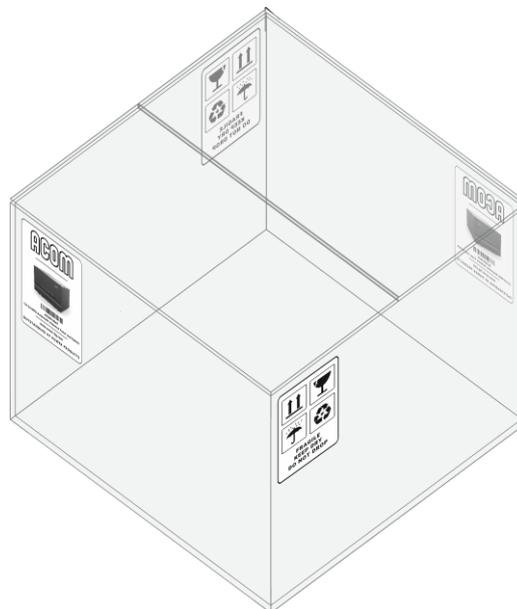
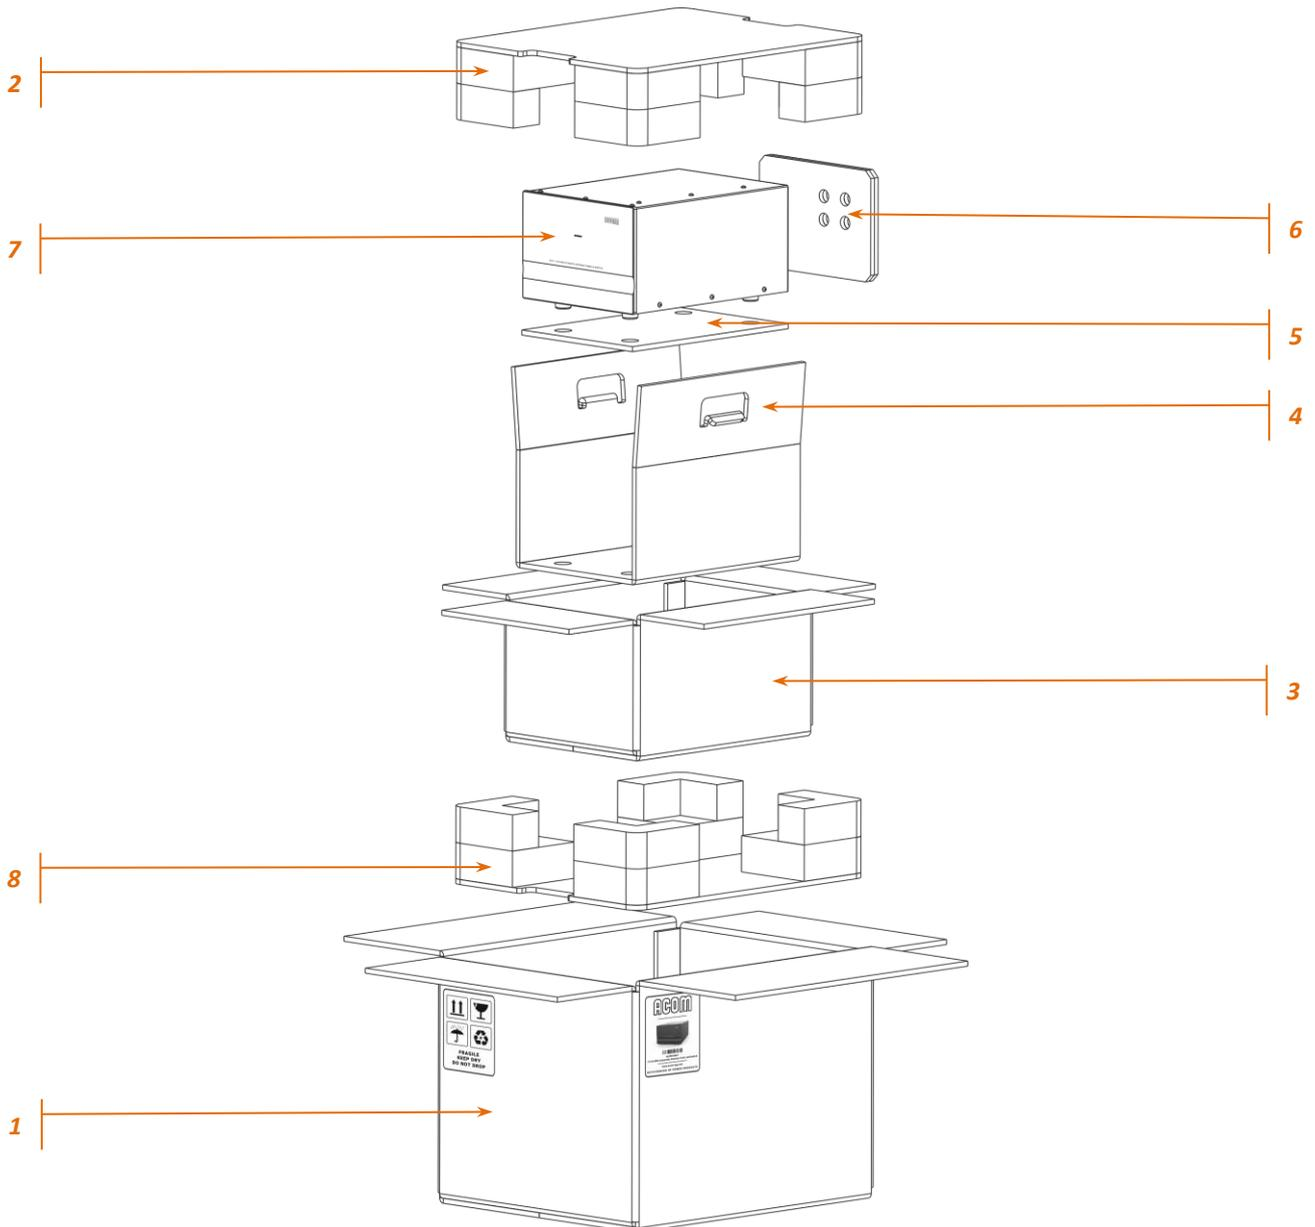

Figure 2-1 | Packaging carton (outside view)
Figure 2-2 | ACOM 06AT packaged in a cardboard box
- Open the cardboard carton (see Figure 2-1 | Packaging carton \(outside view\) and Figure 2-2 | ACOM 06AT packaged in a cardboard box, Pos. 1);
- Take out the top secure element (see Figure 2-2 | ACOM 06AT packaged in a cardboard box, Pos. 2);
- Open the internal cardboard carton (see Figure 2-2 | ACOM 06AT packaged in a cardboard box, Pos. 3);
- Take out the tuner using handles of the middle secure element (see *Figure 2-2 | ACOM 06AT packaged in a cardboard box*, Pos. 4);
- Take out the tuner (Pos. 7) from the middle secure element and remove bottom and rear flat secure elements (see *Figure 2-2 | ACOM 06AT packaged in a cardboard box*, Pos. 5 and 6);
It is not necessary to take out the bottom secure element (see *Figure 2-2 | ACOM 06AT packaged in a cardboard box*, Pos. 8).